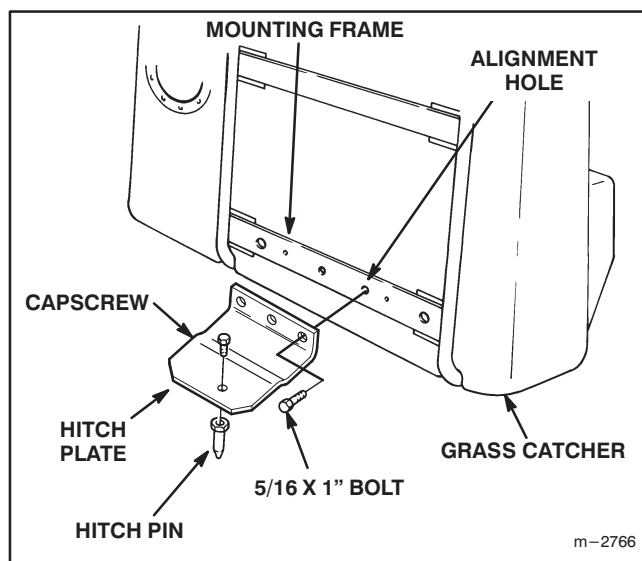

Figure 2
2. Align holes in hitch plate tab with hole in mounting frame as shown in Figure 2.
3. Bolt the hitch plate to the mounting frame using (2) 5/16 x 1" bolts and locknuts supplied (Fig. 2).
4. Secure hitch pin to hitch plate in hole shown in Figure 2 with a 5/16 x 5/8" capscrew.